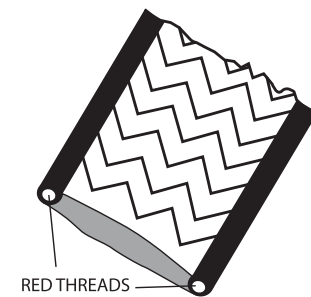

figure 1
1. For the R330010, the lifeline has the WebAlert feature to help inspection. See figure 1. Visible red threads may indicate that the unit should be removed from service.